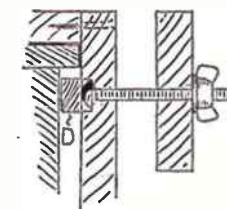

Fig. 3
of wood across, long enough to cover the heads, as in detail (D) in Fig. 3. Provide the bolts with washers and wing-nuts to complete. The thickness of strip (D), by the way, should be equal to the space between board and rail of the table, as in the diagram, to ease any strain likely to come on the board when screwing up the vice.